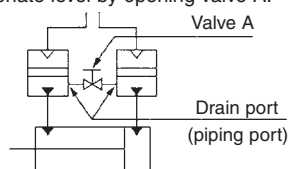

Figure 7
1. Even as a double side hydro unit, leakage occurs with the sliding movement of the air-hydro cylinder, increasing the converter's operating fluid in one area and decreasing it in the other. Fig. 7 provides a countermeasure circuit. Maintain the converter's oil level at an appropriate level by opening valve A.